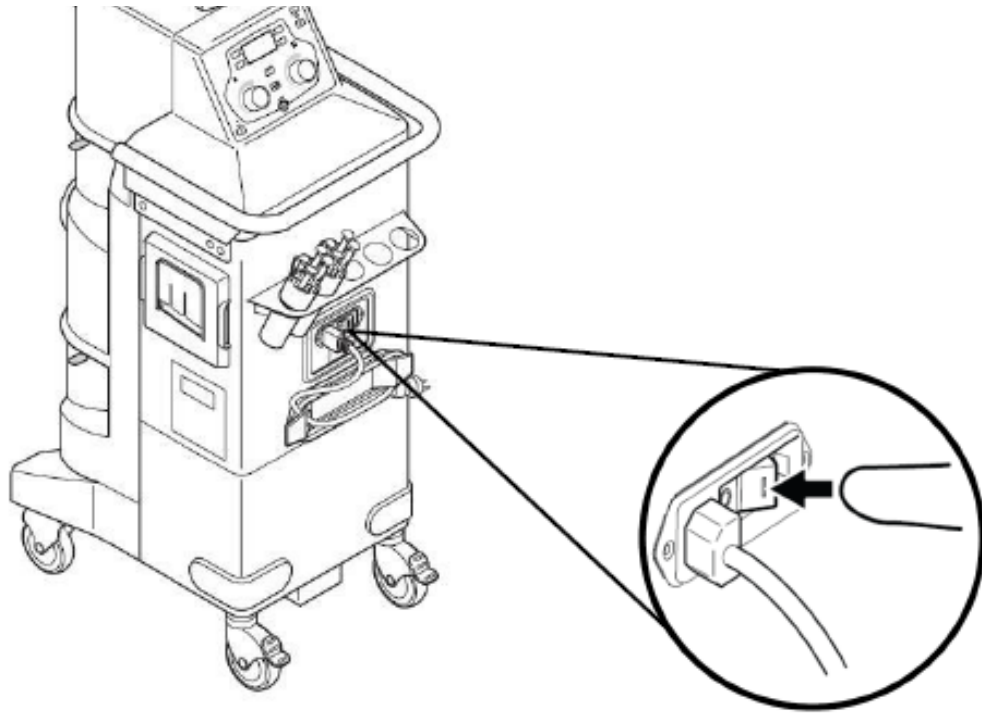

Figure 6. Turn on Main Power Switch
7. Plug the rover in to AC wall outlet and turn on main power switch (see figure 6)